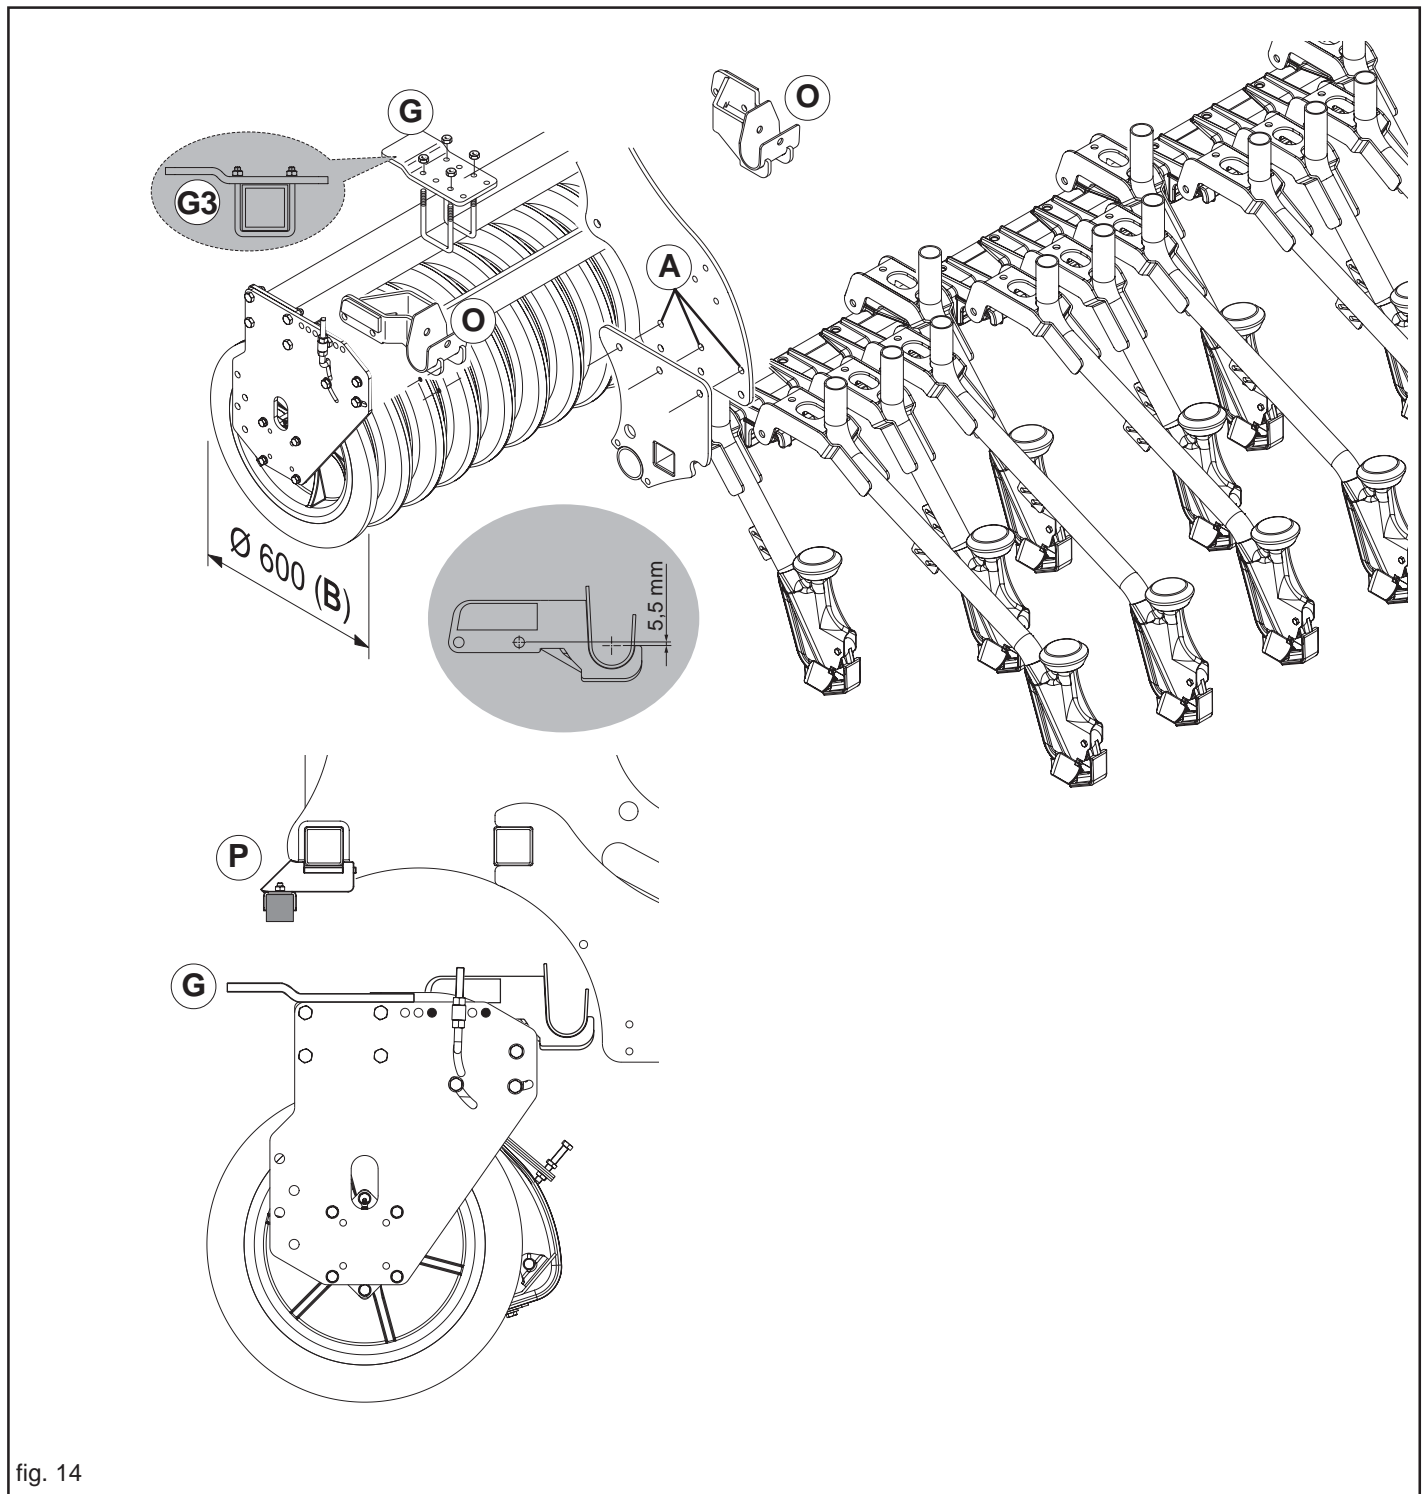

fig. 14
- Nr. 2 supporti (O, Fig. 14).
- Nr. 2 supporti (P, Fig. 14).
- 1) Position of the bar of seeds A (Fig. 14).
- Assemble the two seeder-supports (O, Fig. 14) on the hind roller side panel of the rotating harrow, as showed in Fig. 14.
- In corrispondence of supports (P, Fig. 14), to mount slabs of support (G) like indicated in Figure 14. To make attention the correct assembly of the slab (G3).